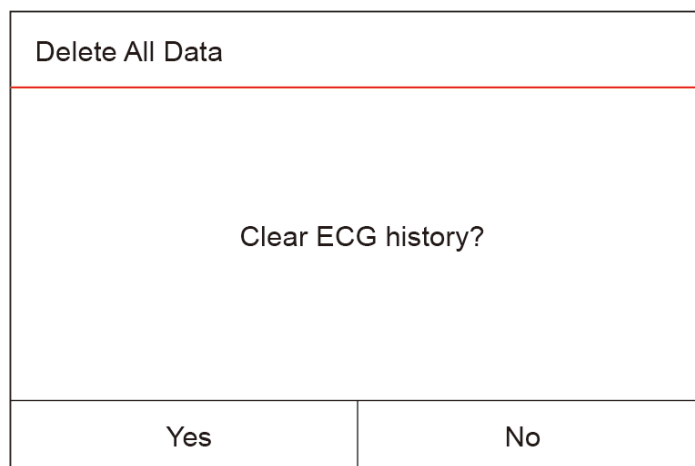

Figure 4.5 Delete ECG history
- Long pressing OK " " key, then a dialog of deleting records pops up, as shown in figure 4.5, the user can delete all history ECG waveform data according to prompt.